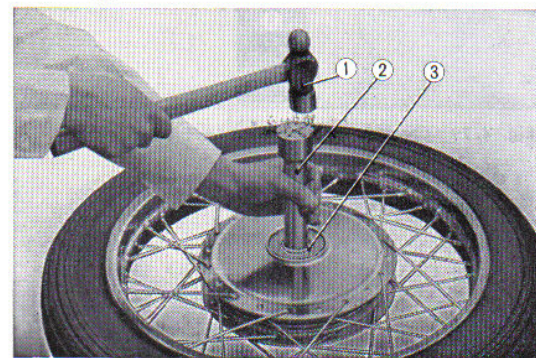

Fig. 4.83 Driving the bearing
2. Grease the 6302Z ball bearing and pack the inside of the front wheel hub with grease, and insert the spacing collar. Drive in the ball bearing using the bearing installer. (Fig. 4.83)